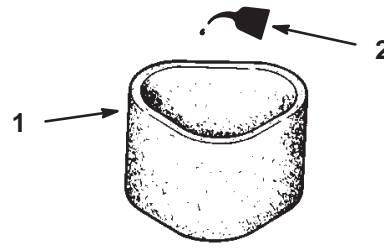

Figure 27
3. Put one or two ounces of oil on the element (Fig. 27). Squeeze the element to distribute the oil.